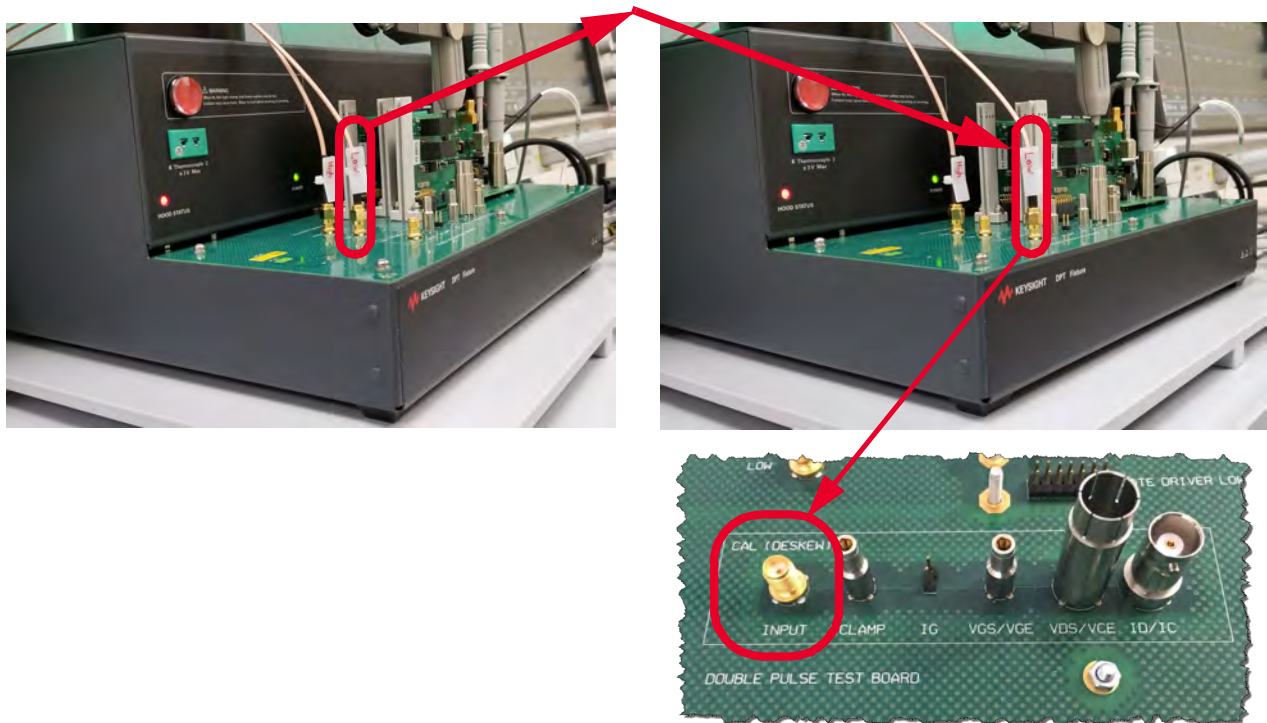

Figure 19 33512B Function Generator Connected to Deskew Fixture
- 1 Locate the Deskew oscilloscope probe connectors on the main Test Fixture. See Figure 19 below.